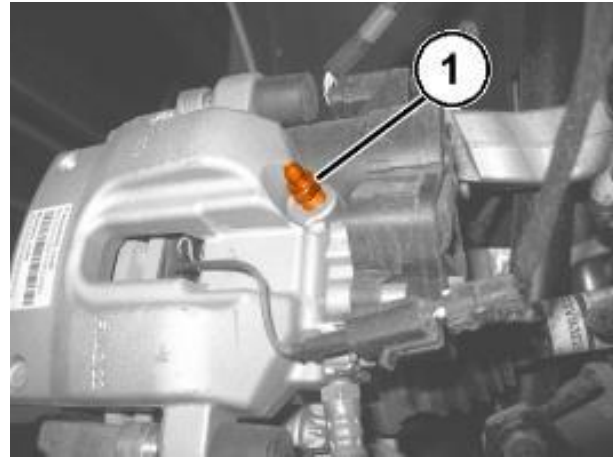

Figure 113 – Brake Bleeder Valve
88. Working at the right rear caliper, position the brake fluid recovery hose to the bleeder screw (1) and to the recovery container. Open the bleeder screw (1) and without applying any pedal pressure on the system, allow a small amount of brake fluid to drain into the recovery container. Then tighten the bleeder screw and remove the recovery hose (Figure 113).
93. Connect the pipe to the valve of the rear right brake caliper. Open the valve, slowly press the brake pedal down fully three or more times, until there are no more air bubbles in the hose through which the oil flows into the container. Tighten the bleed valve to the prescribed torque of 10 N·m (89 In. lbs.) (Figure 113).